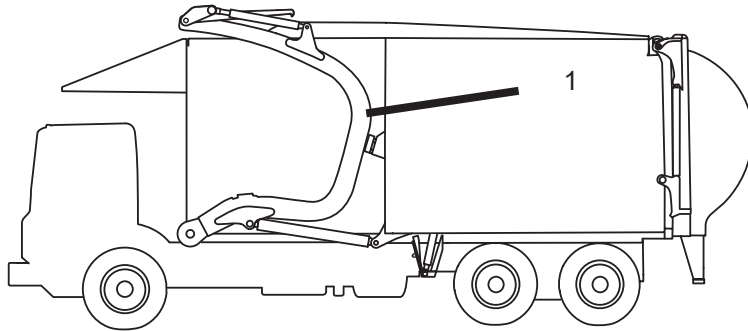

Figure 1
4. Ensure the fork arms are in the fully retracted position (Figure 1).